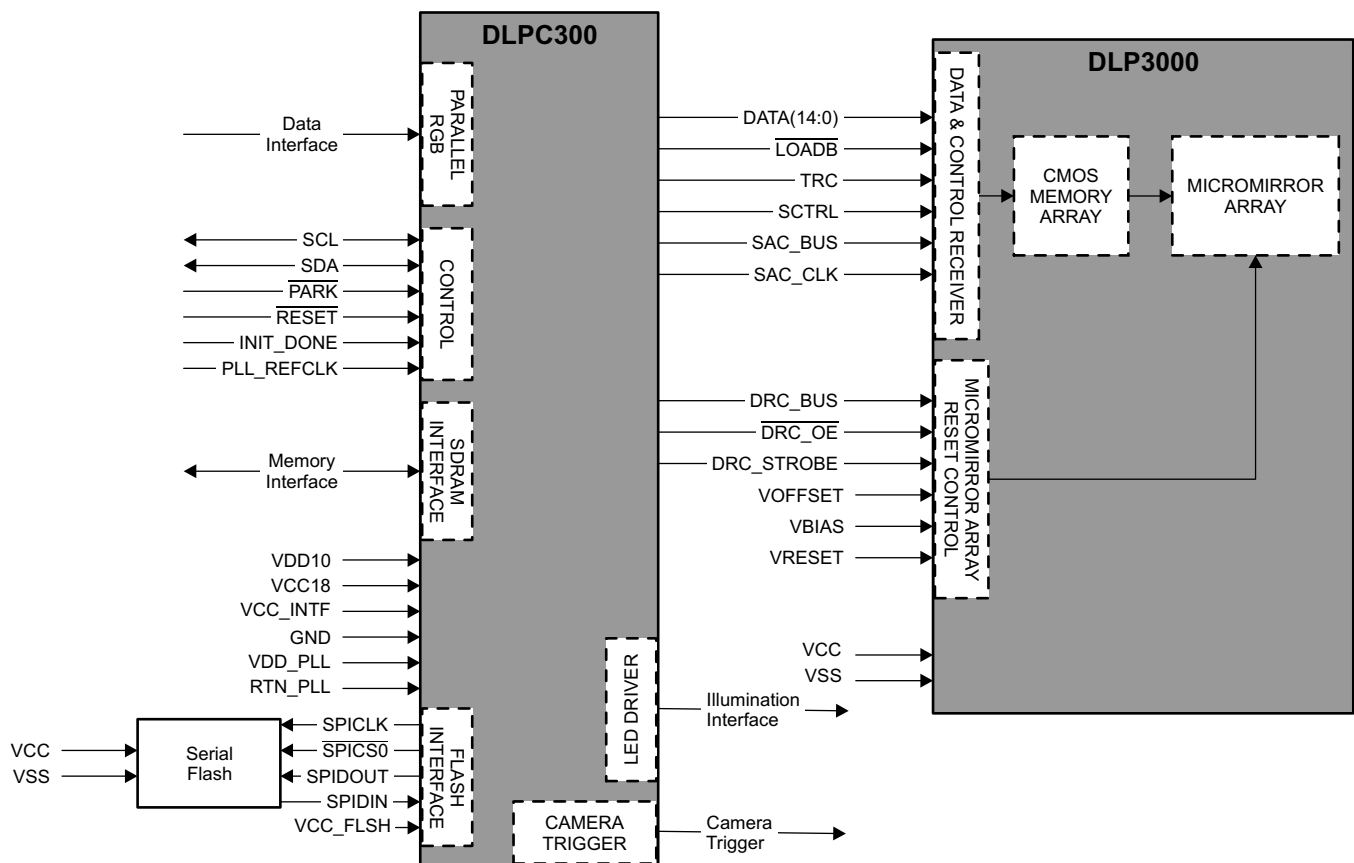

Figure 14. Chipset Block Diagram
The DLPC300 is one of the two devices in the DLP3000 WVGA chipset (see Figure 14). The other device is the DLP3000 DMD. For proper operation of the chipset, the DLPC300 requires a serial flash device with configuration information. This information is loaded after RESET is released. The configuration information is available for download from the DLPR300 product folder.
**Figure 14** illustrates the connectivity between the individual components in the chipset, which include the following internal chipset interfaces: